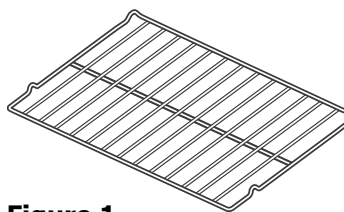

Figure 1
- **Flat oven rack** (Figure 1).